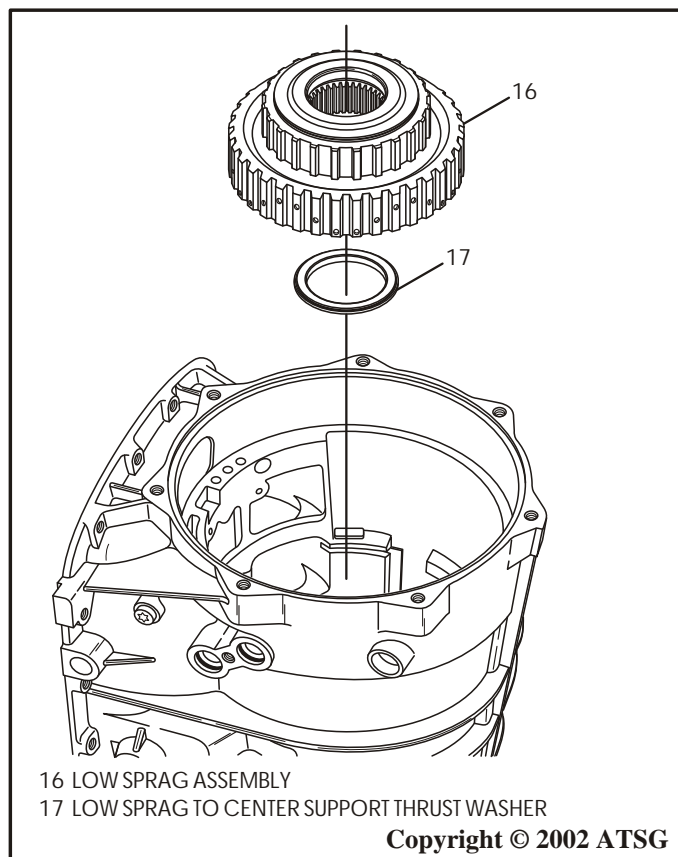

Figure 51
- 44. Remove the low sprag assembly and the thrust bearing, as shown in Figure 51, and set aside for component rebuild section.